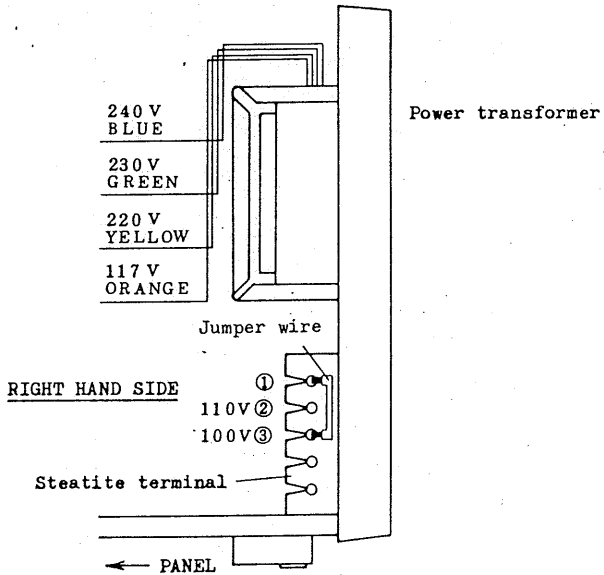

Figure 5-1
(1) The connections shown in Figure 5-1 is for the 100 V AC line power.
(2) Conversion for 110 V AC: